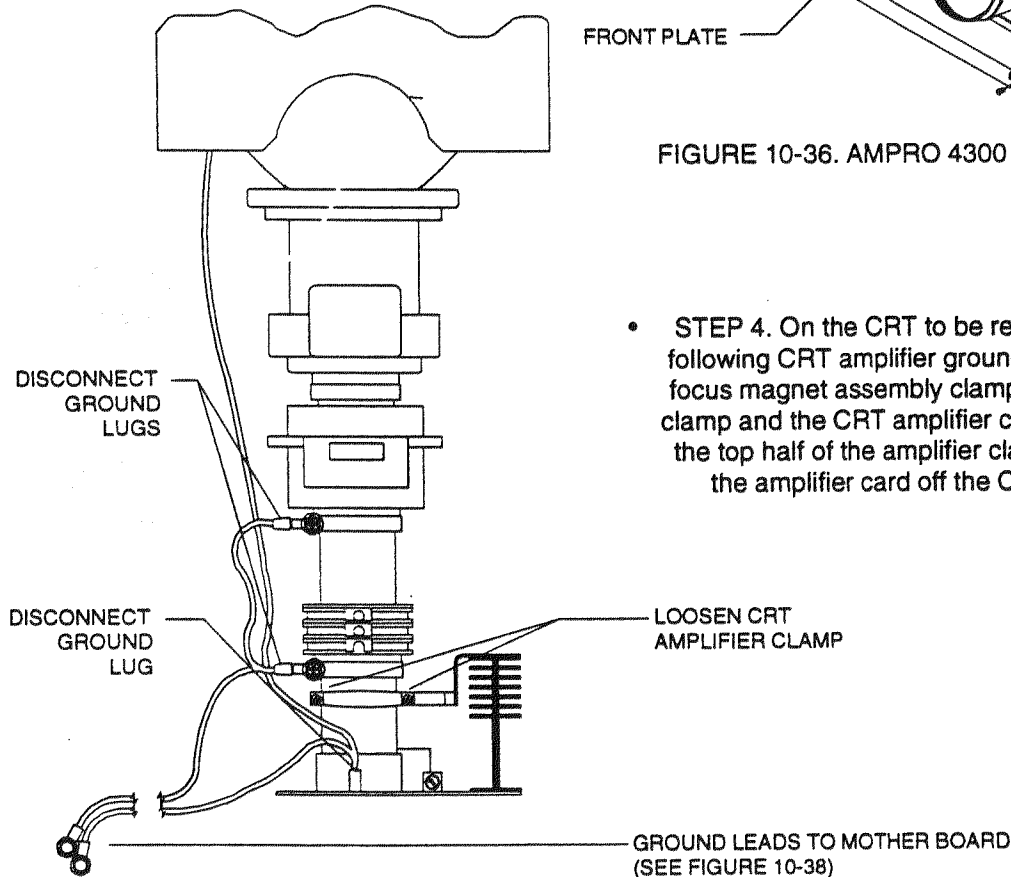

FIGURE 10-37. CRT Amplifier - top view.
- STEP 4. On the CRT to be replaced, disconnect the following CRT amplifier ground connections from the focus magnet assembly clamp, astigmator assembly clamp and the CRT amplifier card. Loosen or remove the top half of the amplifier clamp and carefully slide the amplifier card off the CRT. See Figure 10-37.